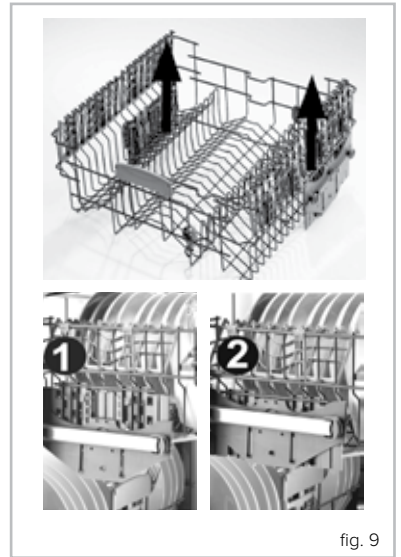

fig. 9
1. Take hold of the basket handles, as shown in fig. 9.